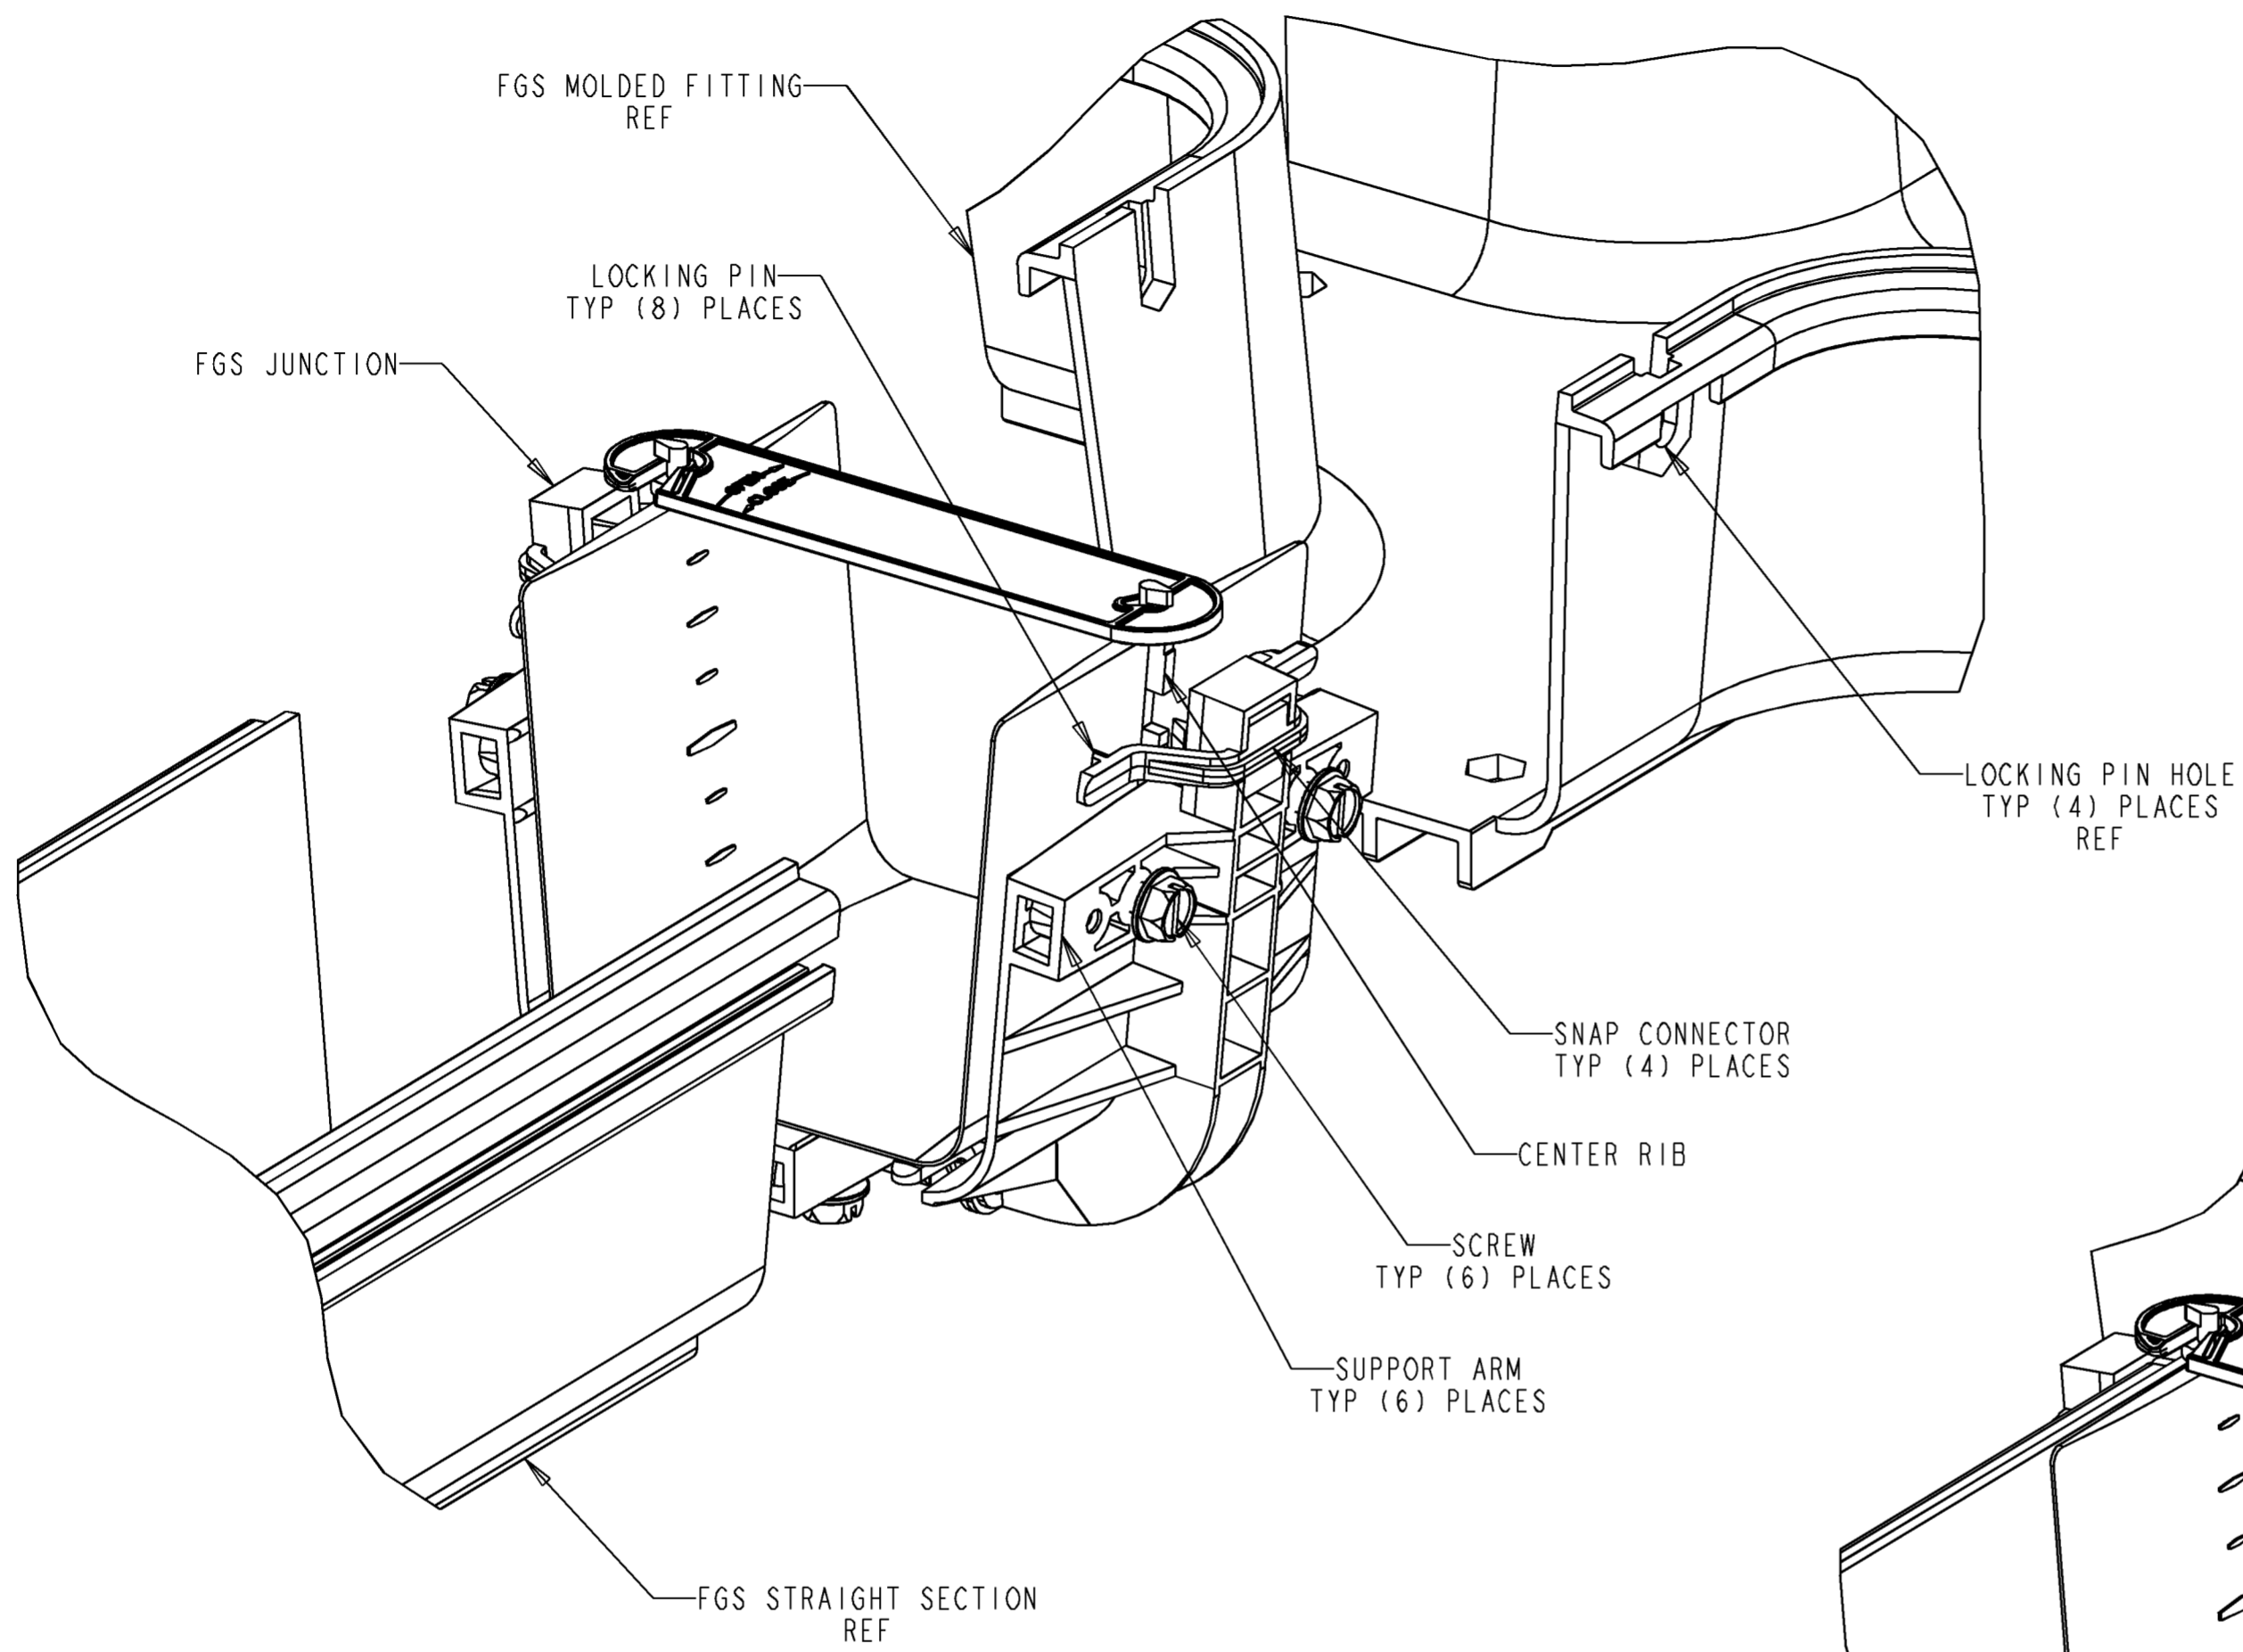

FIGURE 1
1. SLIDE BOTH FGS COMPONENTS INTO JUNCTION UNTIL FIRMLY SEATED AGAINST THE CENTER RIB. IF COMPONENT IS A MOLDED FITTING MAKE SURE LOCKING PINS ON SNAP CONNECTOR ARE ENGAGED IN HOLES ON MOLDED FITTING (SEE FIGURE 1).